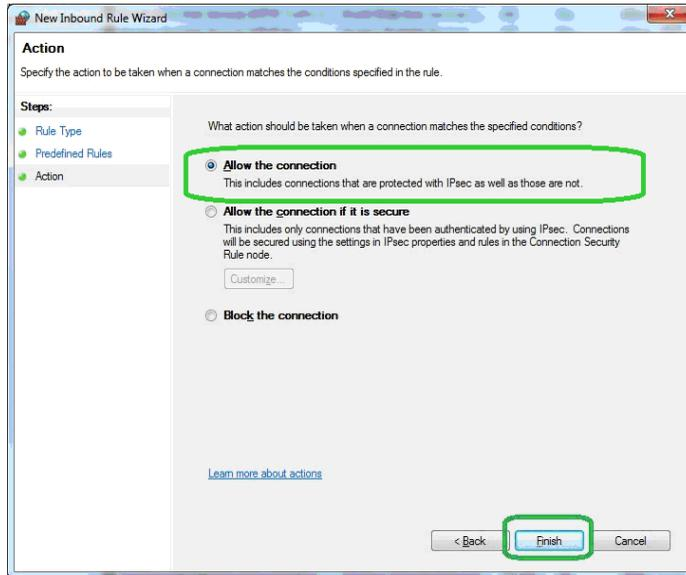

FIGURE 2-40 Windows® Firewall - New Inbound Rule Wizard - FTP (Allow the connection)
Step 13 On the Action page, select **Allow the connection**, as shown in FIGURE 2-40.